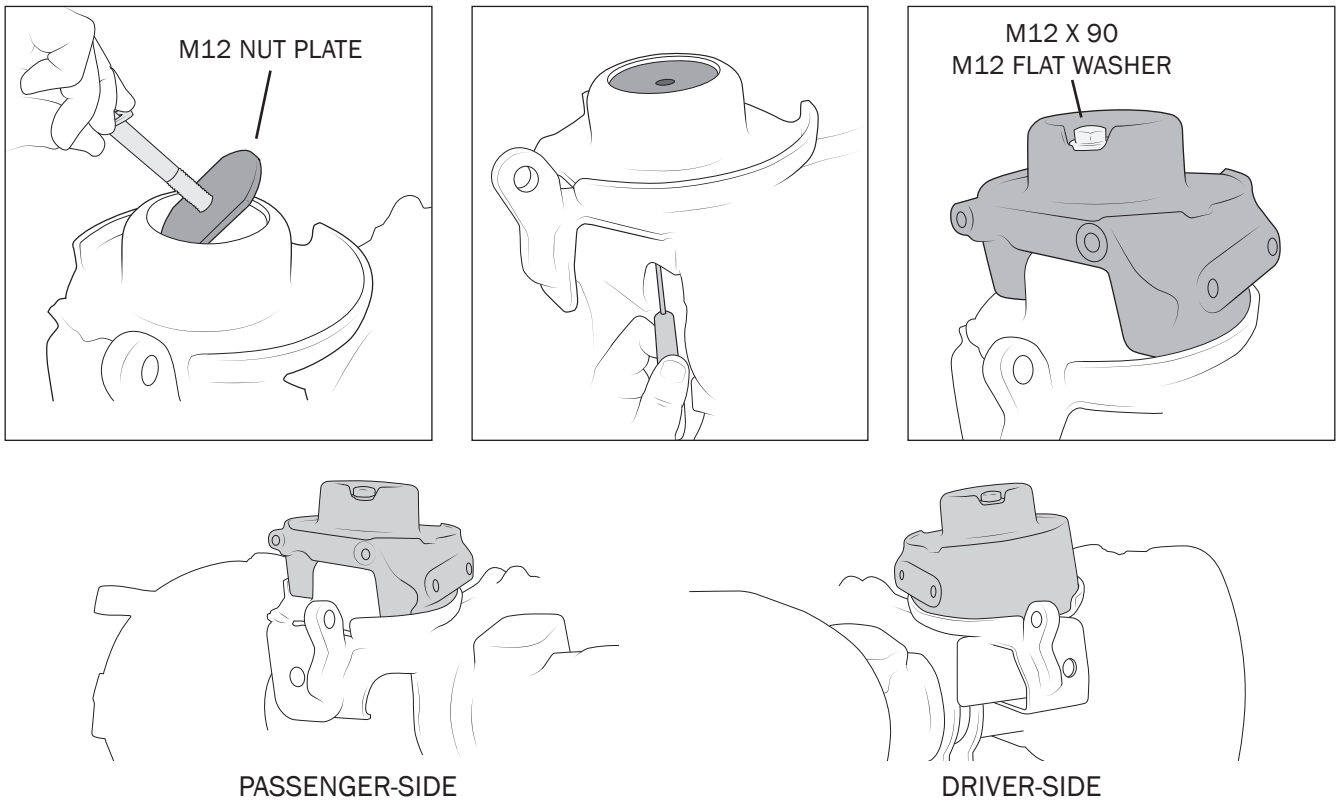

Figure 14
4. Install AEV coil spring mounts to the axle using hardware bag #2. Leave loose at this time (fig. 14).